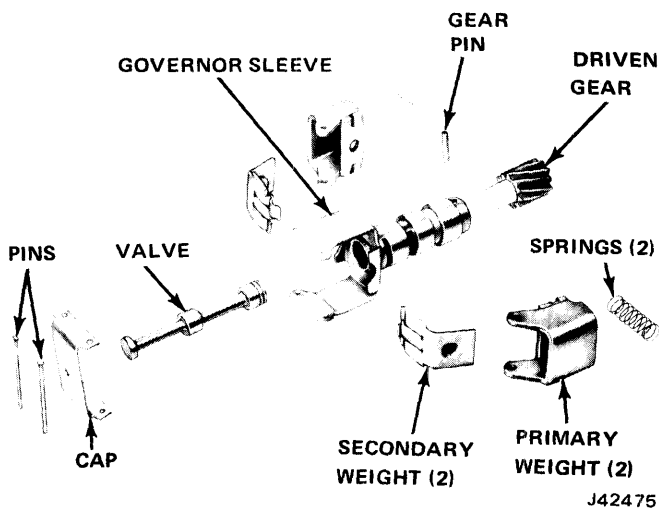

Fig. 7-50 Governor Assembly
(1) Install governor valve in bore of governor sleeve (fig. 7-50).
(2) Install weights and springs.
(3) Install thrust cap on governor sleeve.